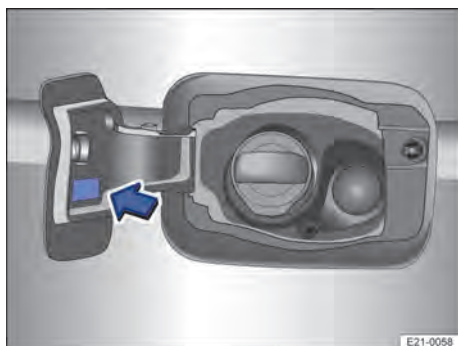

Fig. 148 On the inside of the tank flap: fuel information label (illustration).
The type of fuel to be used depends on the vehicle engine. The factory fuel information label with specification of the minimum required fuel grade for the vehicle is located in the tank flap → Fig. 148.
- On the vehicle on the fuel information label in the tank flap → Fig. 148.